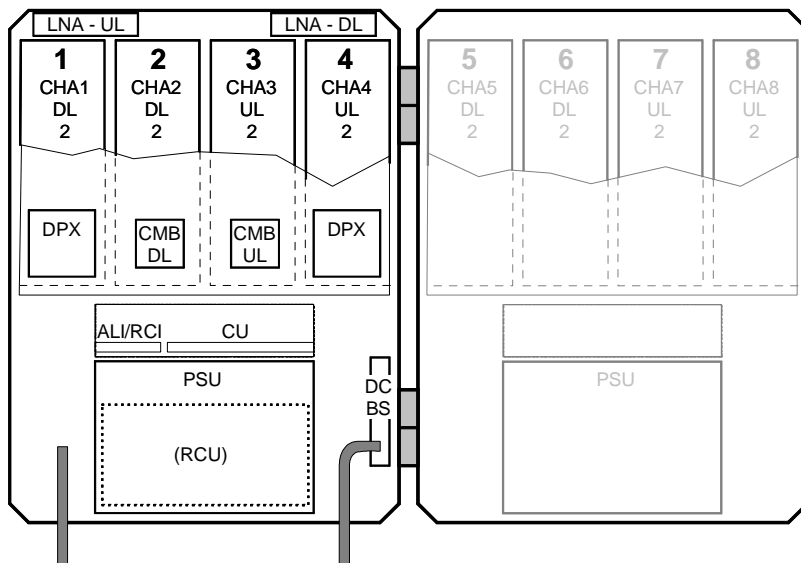

Figure 1-4 CSel GSM Repeater Sub Unit Locations
A cabinet for a CSel GSM repeater can be equipped with four CHEs, two for the downlink (DL) with two internal channels each and two for the uplink (UL) with two internal channels each. The described cabinet has a capacity of four bi-directional GSM channels. A high cover can be equipped as well providing up to eight GSM channels. PCBA positions are illustrated in Figure 1-4 and a block diagram is located in Appendix A.